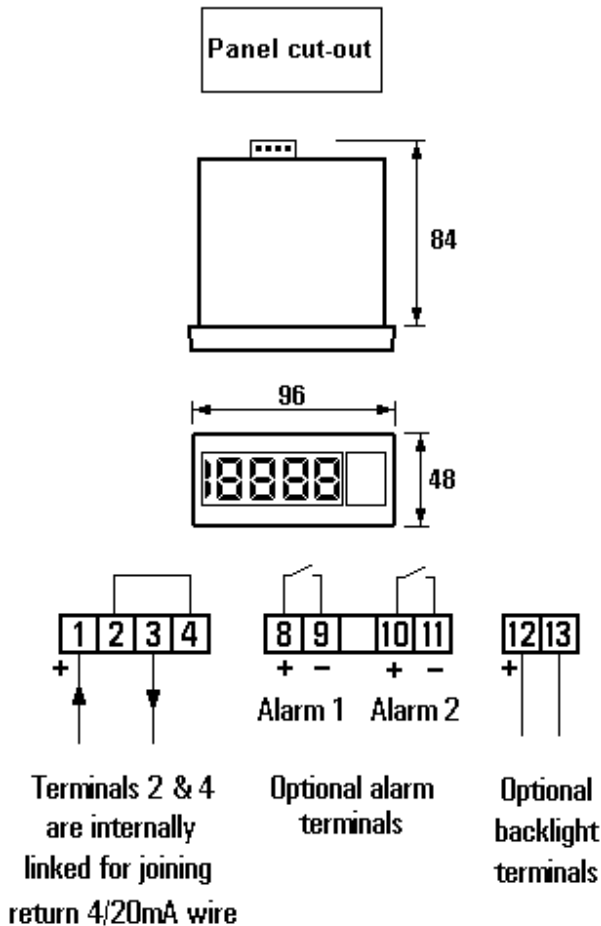

Fig 4A BA527C dimensions
Figs 4A and 4B show the overall dimensions of each instrument and the required panel cut-out dimensions. To achieve an IP65 seal between the instrument enclosure and the instrument panel the smaller tolerance aperture must be used, and the BA528C must be secured with four mounting clips.
- Connect the panel wiring to the rear terminal block(s) as shown in Figs 4A and 4B. To simplify installation, the terminals are removable so that the panel wiring can be completed before the instrument is installed.